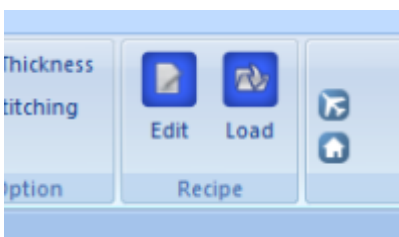

Fig. 79. Recipe edit button in Live Image tab
- Click the **Edit** button in the *Recipe* group of the *Live Image* tab, as shown in Fig. 79.